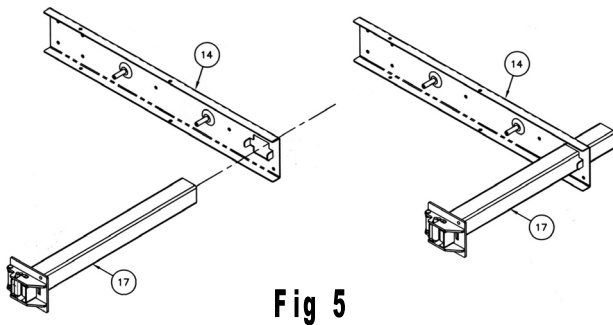

Fig 5
Insert the cable tube assembly into the release base Fig 5 (14). lining up the mounting holes in the base with those on the cable tube assembly. Using a large flat blade screwdriver, bend